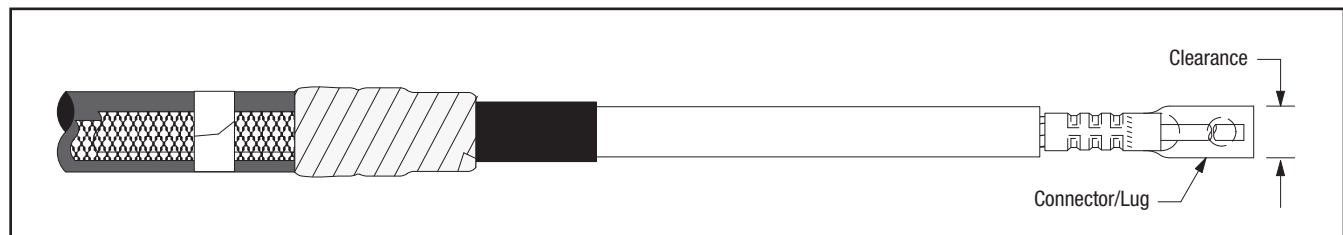

Figure 9
- 5.1 Check to insure 3M Cold Shrink QT-III Silicone Rubber Termination assembly fits over the selected lug or connector BEFORE installing the lug or connector.** If lug or connector (Figure 9) will not fit through the termination core, clean the insulation (per Step 6.0) and slide termination on cable before installing lug or connector. **DO NOT REMOVE CORE AT THIS TIME.**